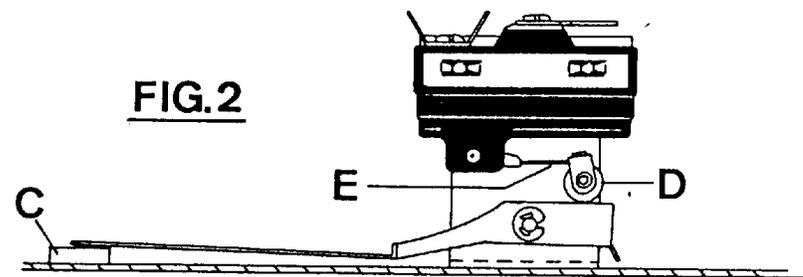

FIG. 2
3. Place $\frac{3}{8}$ " x $\frac{5}{8}$ " (10 mm x 16 mm) spacer bar or equivalent "C" (figure 2) under air blade in position shown; hold switch mounting bracket firmly and adjust switch actuator "D" with needle nose pliers at "E" by twisting actuator right or left, whichever is needed, so that switch closes when end of air blade engages bar "C".